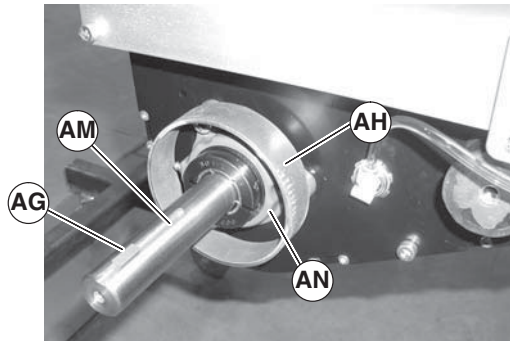
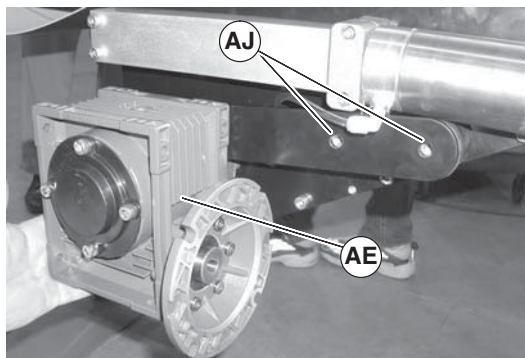

Figure 16
Figure 18
3. Install key (Figure 16, item AG) on drive shaft(AM). Install cover (AH) over bearing housing (AN)
5. Slide gearmotor (Figure 18, item AE) on to drive shaft (Figure 16, item AM). Tighten mounting screws (AJ) to 200 in-lbs (22.5 N-m).